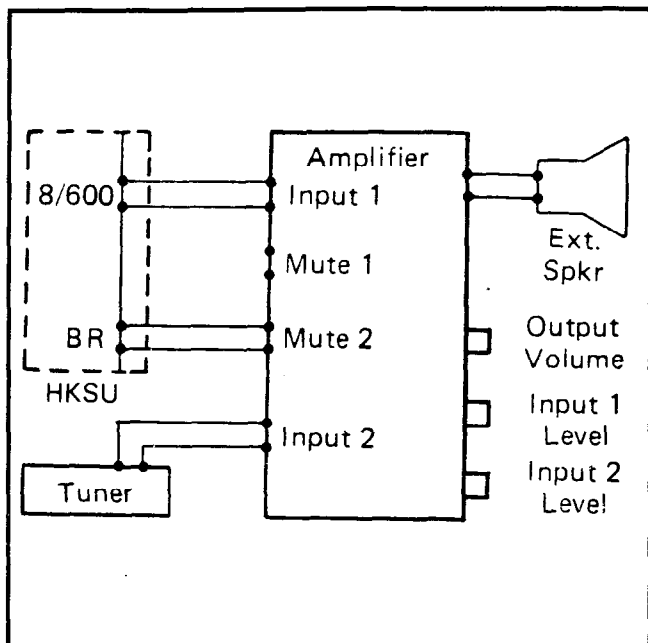

FIGURE 37
10.76 To provide external BGM control, connect the BR terminals on the left side panel of the HKSU to the control terminals (mute, MIC switch, etc.) on the amplifier (see Figure 37).